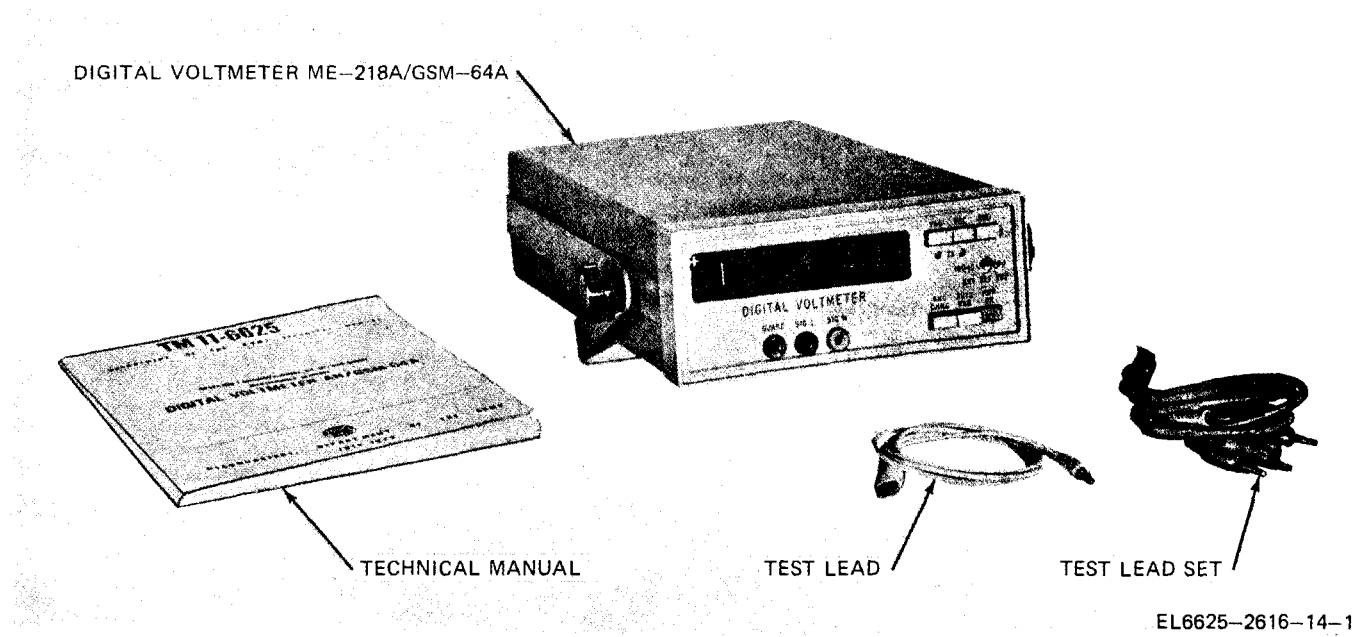

Figure 1-1. Digital Voltmeteter AN/GSM-64A.
a. Digital Voltmeter AN/GSM-64A (fig. 1-1) is a five-digit digital voltmeter used to measure dc voltages in three ranges from ± 0.0001 volt to ± 1000.0 volts, and dc voltage ratio (with ± 1 volt to ± 10 volts reference input) in three ranges from 000,000 to ± 11999.9 percent or (with ± 10 volts to ± 100 volts reference input) in three ranges from 00.0000 to ± 1199.99 percent.